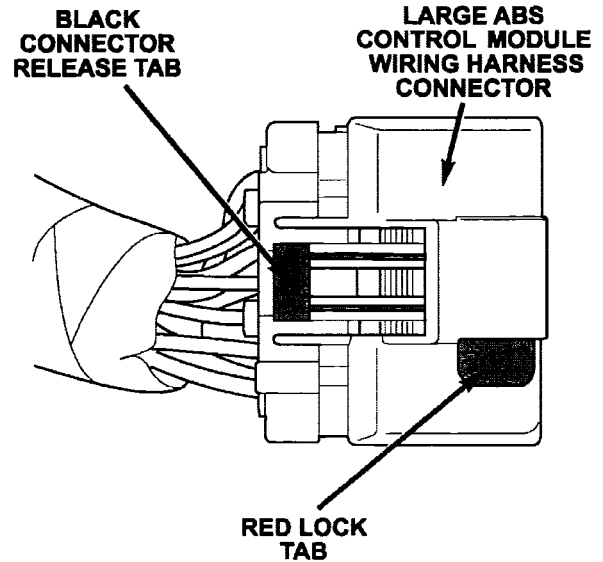

Figure 7
15. Disconnect the large ABS control module wiring harness connector from the ABS control module by first sliding the red lock tab forward. Then push down on the black release tab while pulling the connector from the module (Figure 7).